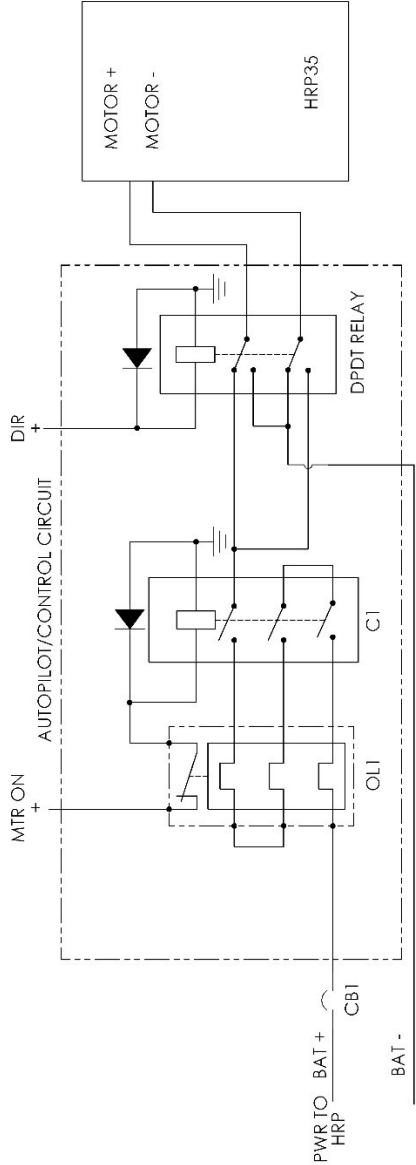

Figure 4: HRP Basic recommended wiring schematic
The minimum arrangement required to electrically operate the HRP is shown in Figure 4. This consists of a main contactor and thermal overload at “C1” and “OL1” respectively to provide the connection to the vessels main power supply. A secondary reversing contactor is required to reverse the polarity of the motor to provide bi-directional fluid flow. The input leads to the control circuit can be connected to an autopilot system as described in section 4.3.1 or a jog style control as described in section 4.3.2.
A circuit breaker, shown as “CB1” in Figure 4, is also required on the main power lead. This circuit breaker protects the equipment in the event of a short circuit, as the thermal overload will typically have a time delay before isolating the circuit. Sizing of the circuit breaker should be done as recommended by the thermal overload manufacturer to prevent damage to the overload during a large overcurrent condition. The circuit breaker must be sized so it's fast acting portion (Magnetic trip curve) will protect the overload in the event of a short circuit or severe overcurrent. Heed must be given though to the maximum hard over current specified in Table 1, circuit breakers should be sized so the fast trip is above this value.
2. Observe the recommended thermal overload setting given in section 2.1, Table 1, and set the thermal overload, OL1 in Figure 4, to this value.